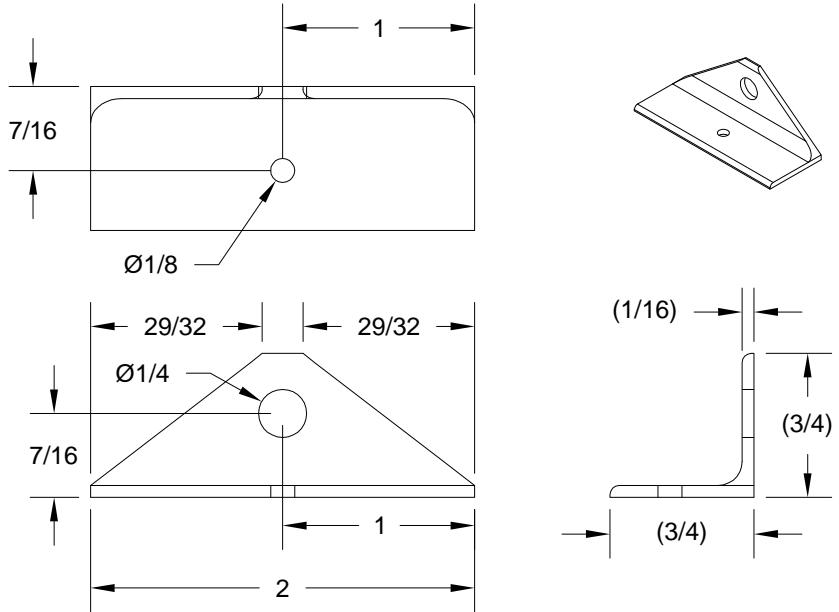

FIGURE 1:
Step 1: Fabricate two F-1095C Trim Bellcrank Brackets from AA6-063X3/4X3/4 Aluminum Angle as shown in Figure 1.